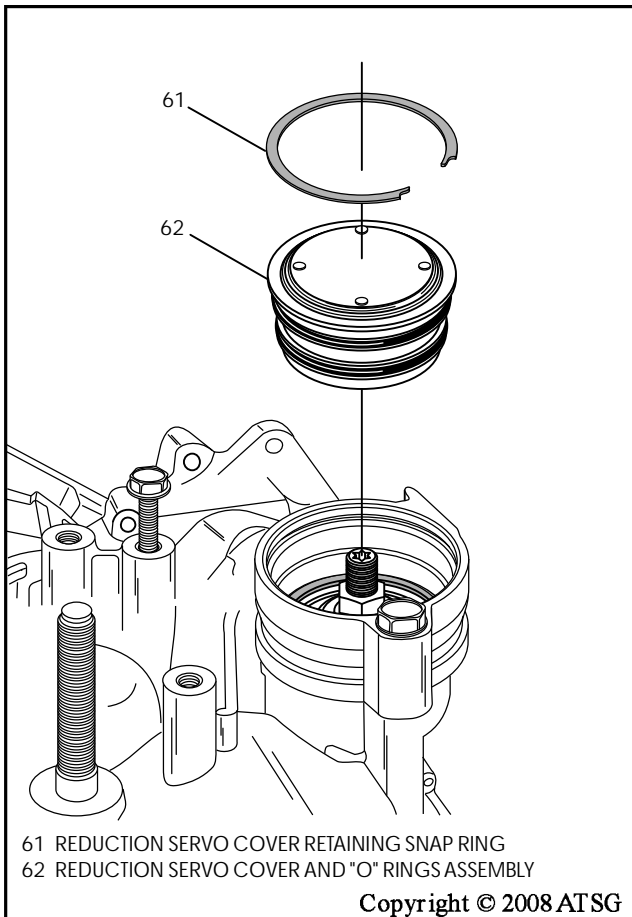

Figure 220
21. Install the pre-assembled reduction servo cover assembly, as shown in Figure 220.
22. Compress the cover and install the snap ring, as shown in Figure 220.